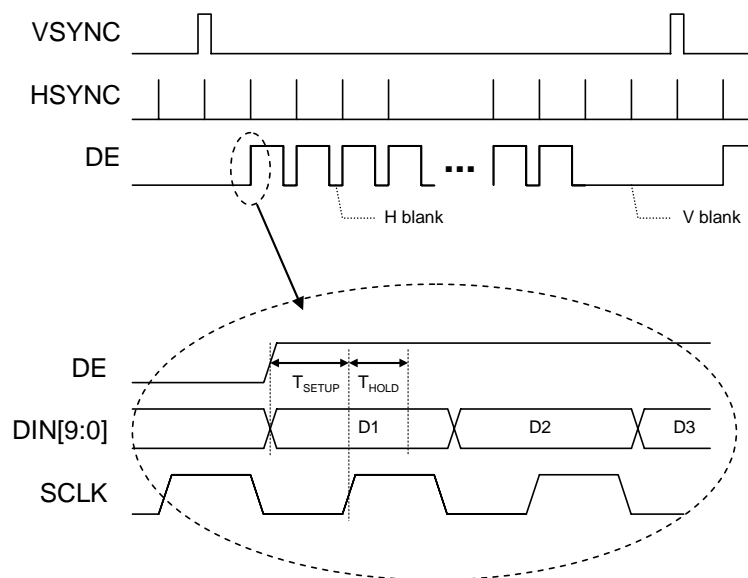

Figure 6 : Input Data timing diagram.
The 30-bit digital input port is comprised of three 10-bit data busses that make up the RGB data inputs. Separate synchronization signals (VSYNC and HSYNC) and the pixel clock (SCLK) are to be provided by the external video source. The data valid signal (DE) is used to signal the start of loading a row of data into the internal line memory. An active ENABLE signal is required for the Stereovision mode (inactive for all other modes, except Interlaced Video). The timing diagram for the input data bus is shown in Figure 6.